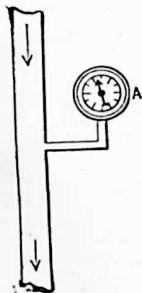

FIG. 10. The pressure gauge *A* indicates the pressure of the water in the pipe.
**9. Measurement of Pressure. Volt-meter.** When we wish to measure the water pressure in a pipe, we tap a pressure gauge on to the pipe line, as (*A*) in Fig. 10. Note that no current flows through the gauge. It is merely tapped on to the pipe at the point at which we wish to measure the pressure, so that the pressure can get at it and cause it to indicate. The pipe, and current flowing through it, are not disturbed. Similarly, when we wish to measure the electric pressure causing an electric current to flow through, say a lamp, we do not disturb the circuit nor the current flowing through it. We just tap the terminals